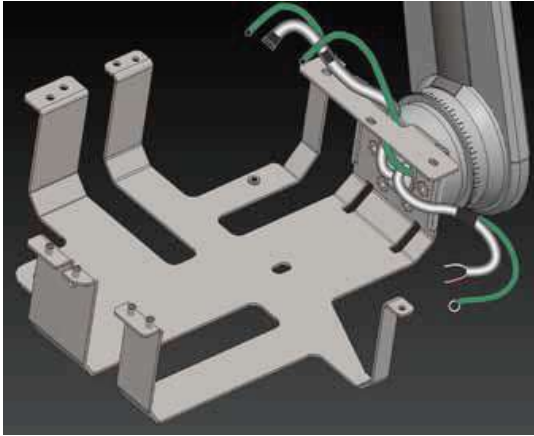

Figure 67
- Route the scissor-arm cables as shown in Figure 67 .